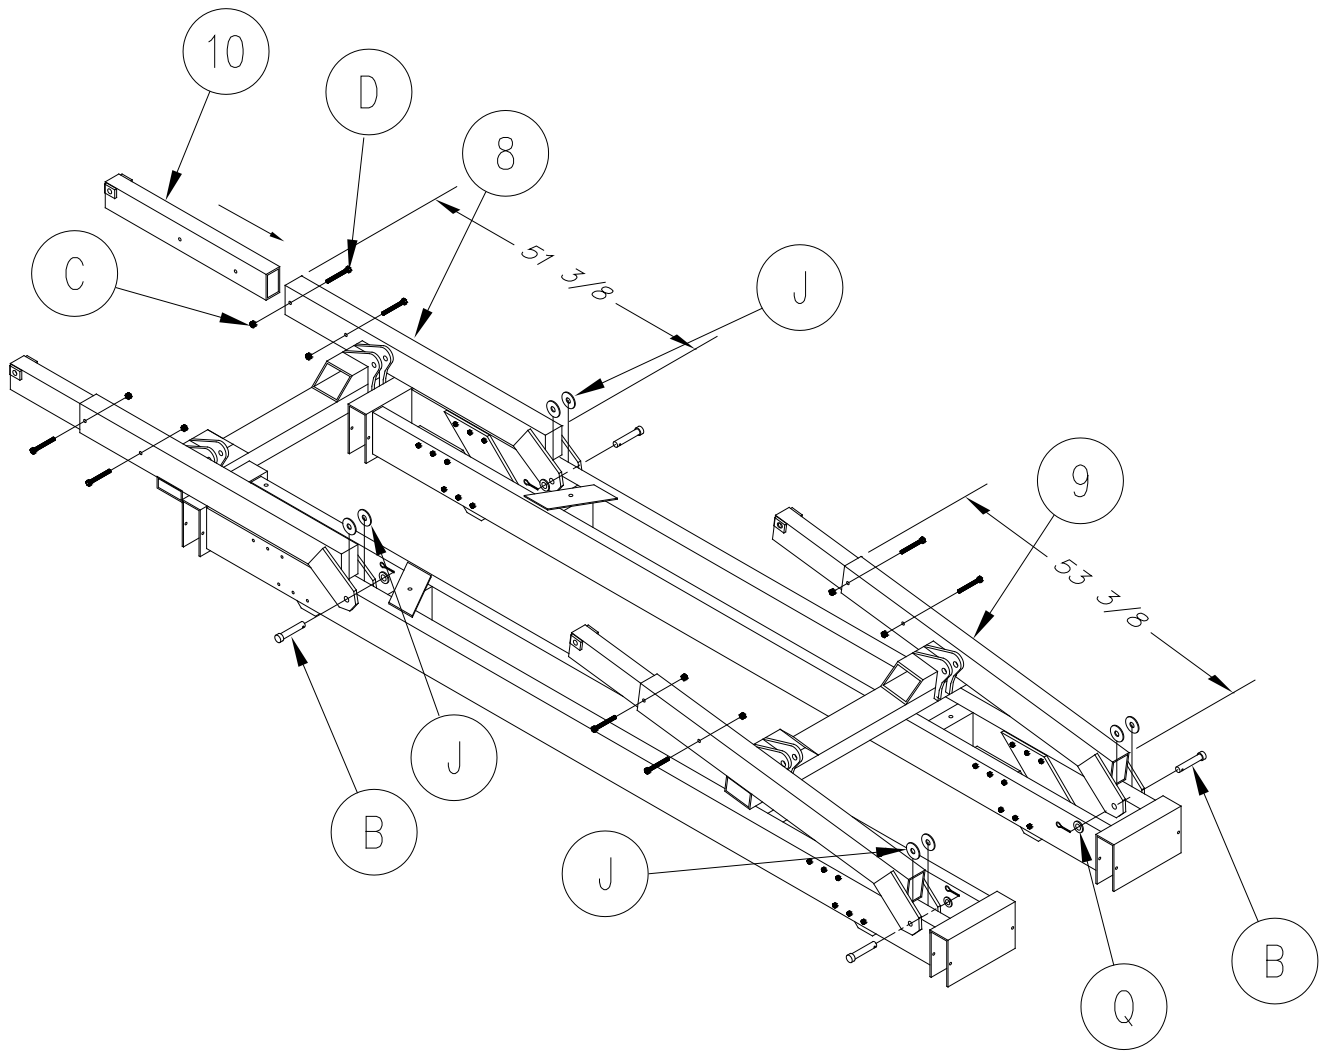

Figure 3-3.
1. **Refer to Figure 3-3.** Install rear lift arm (8) to the main frame. Before inserting clevis pin (B), install nylon washer (J) between the main frame and the lift arm pivot plates. Insert clevis pin (B) through the lift arm end plates and hole in the lift frame. Install flat washer (Q) and cotter pin (P) on each end of clevis pin. Secure clevis pin by spreading end of cotter pin apart and bending around clevis pin.
2. Install front lift arm (9) to the main frame. Before inserting clevis pin (B), install nylon washer (J) between the main frame and the lift arm pivot plates. Insert clevis pin (B) through the lift arm end plates and hole in the lift frame. Install flat washer (Q) and cotter pin (P) on each end of clevis pin. Secure clevis pin by spreading end of cotter pin apart and bending around clevis pin.
3. Install lift arm extension tubes (10) to the front (9) and rear (8) lift arms. Use hardware (C) & (D) to secure the arm extensions to the lift arm.